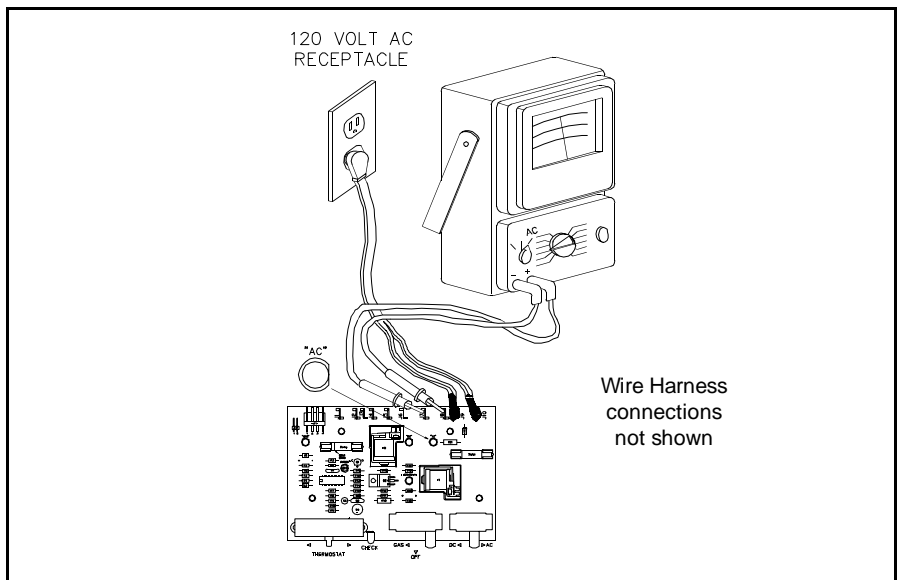

Figure 4.49 AC Output Check
- A. Check for 120 volt AC between (output) terminals J-7 and J-8 of the PC Board per Figure 4.49. If 120 Volts AC is not present, replace the PC Board.